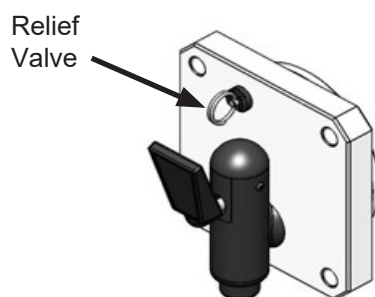

Figure 6.3 DDV Faceplate
Note: This regulator is a non-venting regulator. It will be easier to adjust by increasing pressure. If the regulator setting is reduced to lower pressure, the pressure must be vented by opening the solution module solenoid manually using the Filling Sol 1 or 2 function in the Manual ON/OFF menu and pressing SELECT before the set pressure is displayed on the pressure gauge. If the pressure reading does not reduce it will be necessary to pull open the relief valve on the faceplate (Figure 6.3) to vent the pressure in the barrel.
2.	Select BARREL 1 on the keypad, then the FILL button to begin filling the barrel with product. If the barrel does not fill, gently pull the relief valve ring (see Figure 6.3) until filling begins and then release. As the barrel fills, the pressure in the barrel will increase until it rises above the psig fill point (set by dispenser software). At this point, the barrel will stop filling and the LCD will read "Fill Hold". It will then be necessary to pull the relief valve to relieve the pressure and allow filling to continue. Slowly pull the relief valve until the pumps activate, then release. Repeat the venting process until the barrel is 90% full (level with relief valve), then press FILL button to turn OFF.
4.	Select BARREL 1, then press FILL, press the DEFROST and then the RUN buttons to begin the freezing process. Select BARREL 2 and repeat the process. The dispenser will complete a minimum forty-five (45) second defrost cycle on each barrel and then begin the freeze process.